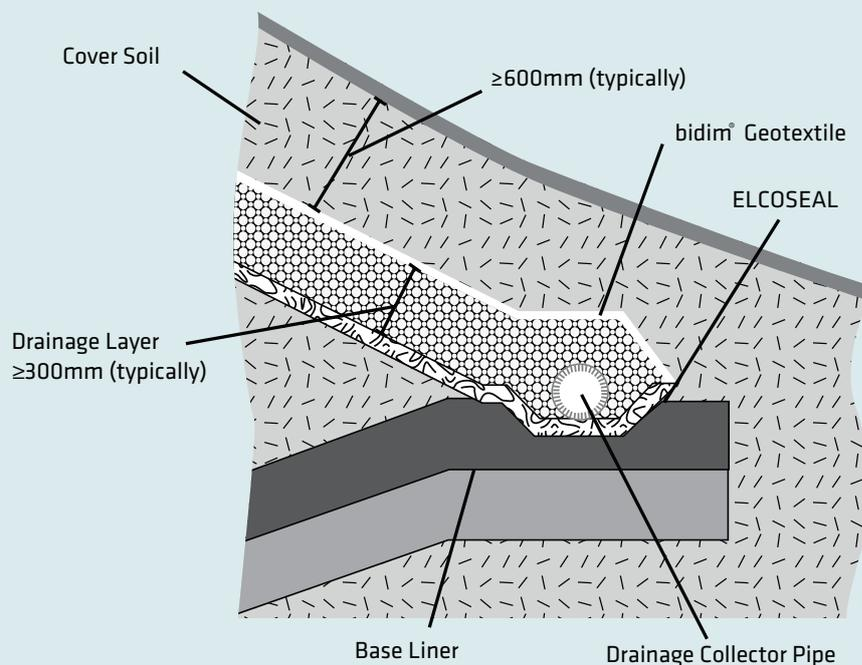

Figure 10 ELCOSEAL cap connection with base liner
- Integration with thick compacted clay liners is shown in Figure 10;